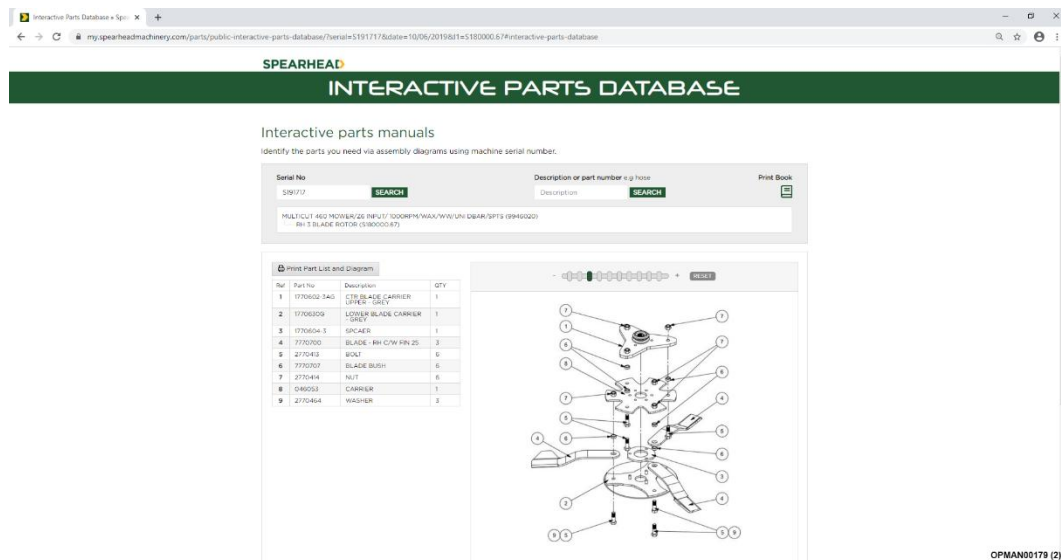

Figure 27 – Exploded Parts Breakdown With Bill Of Materials
7.1.1.4 You will finally be presented with a full exploded parts breakdown for that particular assembly, giving part numbers and the quantities required; see Figure 27.